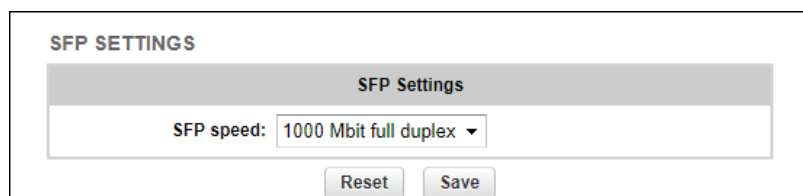

Figure 33. Configurator GUI (SFP Settings dialog)
- The **SFP SETTINGS** dialog will be shown (Figure 33 \(page 105\)).